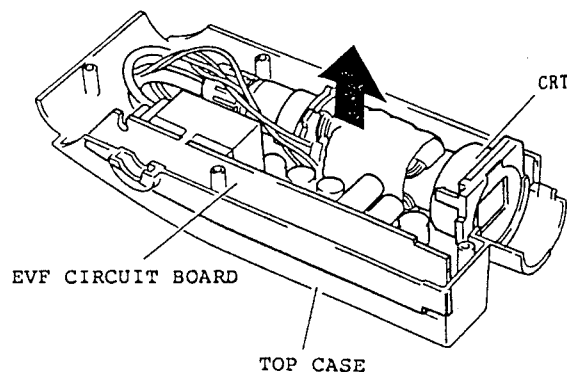

Fig. 2-112
2. Remove the electronic viewfinder (EVF) circuit board and CRT from the top case. (See Fig. 2-112)
2. Remove the top case. (See Fig. 2-112)